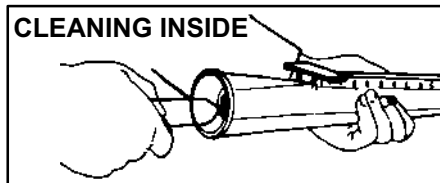

FIGURE 21
- 5- Clean inside of each burner with a bottle cleaning brush. See figure 21.